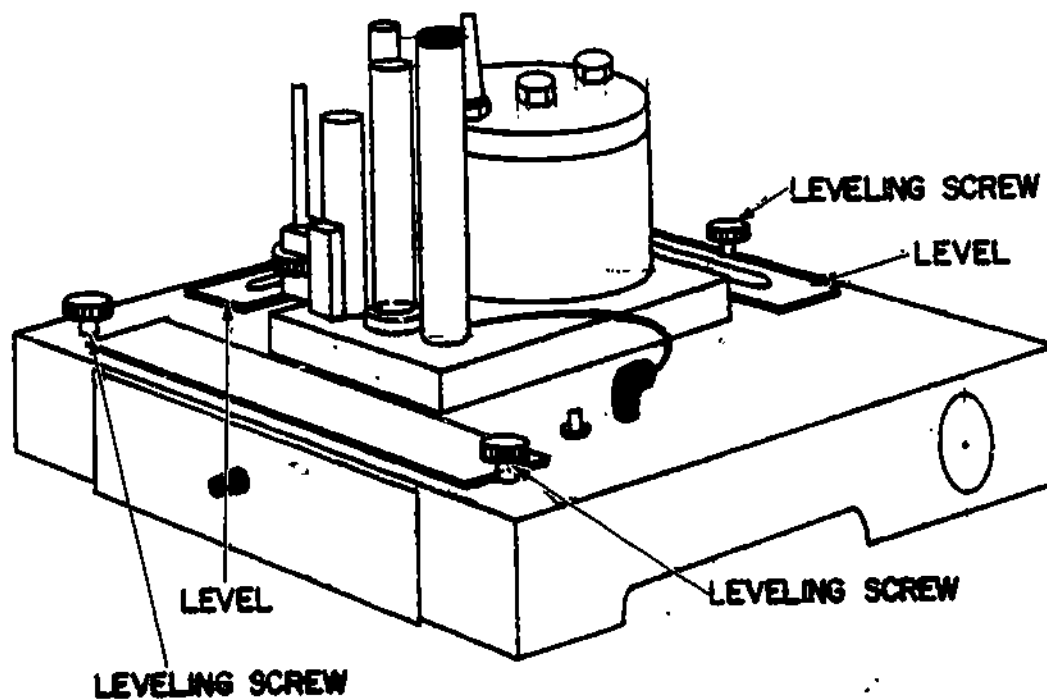

Figure 1.
1. The first adjustment made on the A-1 mercurial barometer before it can be properly used is the leveling adjustment. Remove the cover from the A-1 barometer, look at the base, and see if you can find two levels and three adjusting screws. (Refer to figure 1.) To level the A-1 barometer you must adjust the three screws until the bubbles in the two levels are centered. Check the barometer in front of you and level it if it is not level.